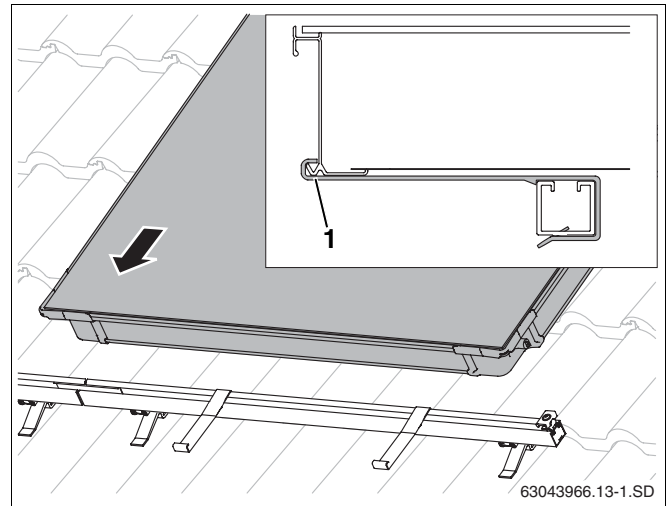

Fig. 42 Laying the first collector on the profile rails
- ▶ Place the first collector onto the profile rails and allow it to slide into the anti-slip protectors (Fig. 42).
The lower collector edge must lie in the opening of the anti-slip protector (Fig. 42, **Item 1**).